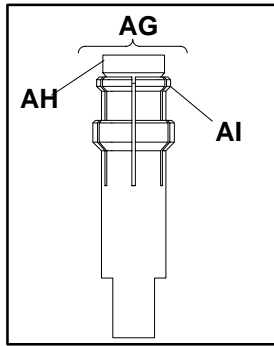
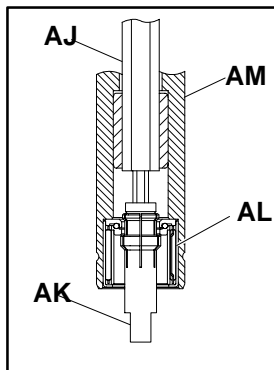

Figure 29
Figure 30
Bearings in pulleys on the 3" (70 mm) and wider conveyors can be removed with Dorner Bearing Removal Tool (AG of Figure 29), part number ☆25-05.
1. Make sure that the flair (AI) on the bearing removal tool is completely closed. If it is slightly open it may not fit into the bearing (AL of Figure 30). Use the hex key wrench extension tool (AJ), either part number ☆25-08 or ◇25-08A and loosen the tapered screw (AH of Figure 29) while compressing the flair (AI) inward to make sure that the tool is completely closed.
2. Insert bearing removal tool (AK of Figure 30) into the pulley (AM) through bearing (AL).